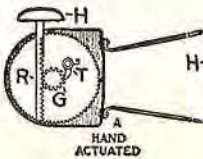

Fig. 3
The hand-operated horn (Figs. 3, and 3A) is not altogether desirable because it is operated by hand at an inconvenient place. It is usually placed too near the driver, whereas it ought to be nearer the front of the car.
The hand-actuated horn is operated by pressing on the knob (H) (Fig. 3) connected with a toothed rod (R), thus actuating gear (G). This type of horn is used extensively on motor trucks.